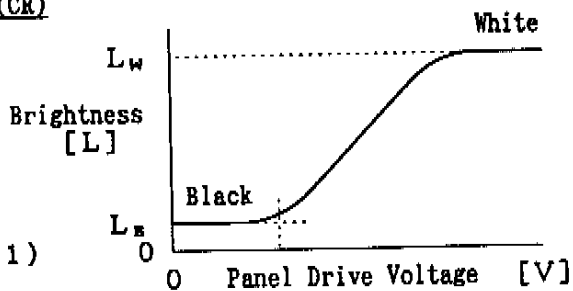

Figure 9-3 Voltage-Brightness Characteristics
Determined by Formula(1) based on Figure 9-3 Voltage-Brightness Characteristics